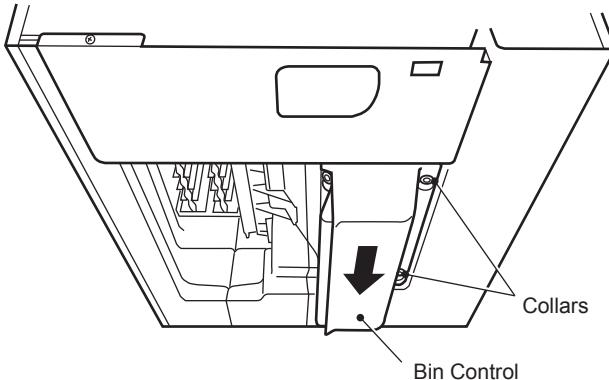

**Fig. 4**
- 6) Route the bin control lead through the hole in the base, then into the bushing provided. See Fig. 4.